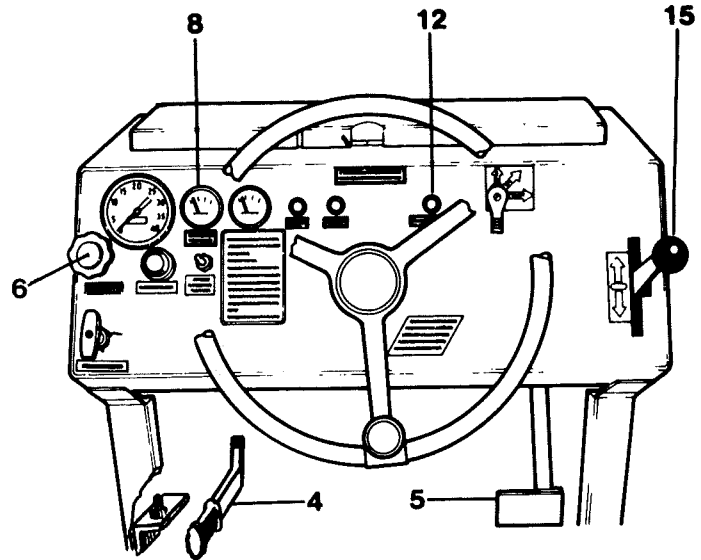

Fig. 17
- 4 Release the handbrake (2) by moving the lever forward and down. This should cause the handbrake warning lamp (12), fig. 17, to go out.
- 5 Move the forward/reverse lever (15) to the desired direction of travel. Regulate the speed of the roller with this lever. To bring the roller to a halt, move this lever to NEUTRAL.
- 6 While the roller is in motion, check that the gauges indicate normal values and that the warning lamps do not light up. The maximum hydraulic oil temperature (8) should not exceed 82°C (approx. 185°F).
- 7 Check that the foot brake (5) is in proper working order (see the maintenance instructions).